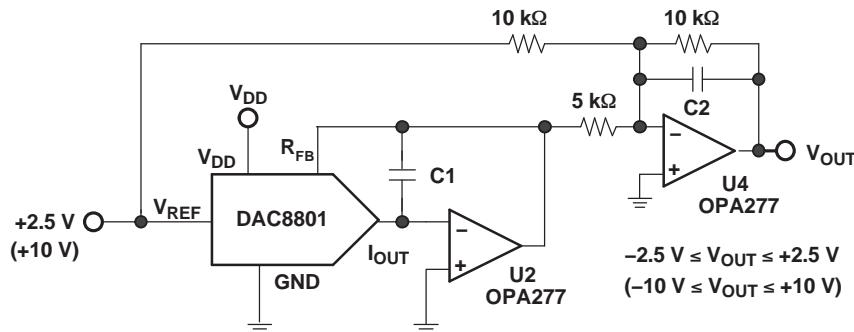

Figure 22. Bipolar Output Circuit
Some applications require full 4-quadrant multiplying capabilities or bipolar output swing. As shown in Figure 22, external op amp U4 is added as a summing amp and has a gain of 2X that widens the output span to 5 V. A 4-quadrant multiplying circuit is implemented by using a 2.5-V offset of the reference voltage to bias U4. According to the circuit transfer equation given in Equation 2, input data (D) from code 0 to full scale produces output voltages of $V_{OUT} = -2.5$ V to $V_{OUT} = 2.5$ V.